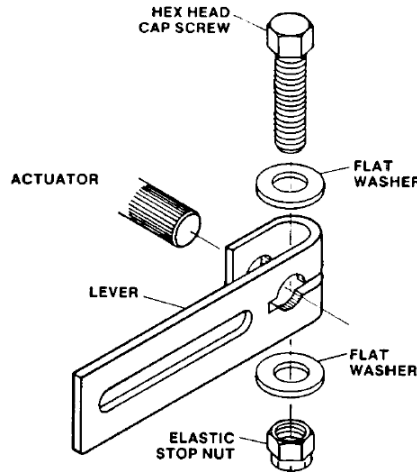

Figure 3. Actuator Lever Hardware Assembly
6. Assemble a 0.250-28 x 1.250 hex head cap screw, with 0.250 flat washer located directly under the screw head. Head of screw must be placed on the side of the lever that faces the actuator. Place a 0.250 flat washer and a 0.250-28 elastic hex nut (thin) on the screw (Figure 3).